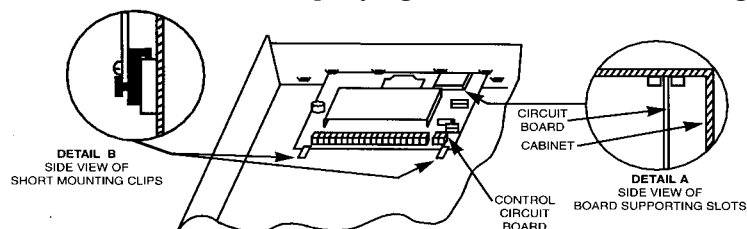

Figure 2. Mounting The PC Board
### Mounting The Control's Circuit Board in The Cabinet (Fig. 2)
1. Hang two short Black mounting clips (provided) on the raised cabinet tabs (see Detail B in Fig. 2).
3. Swing the base of the board into the mounting clips and secure the board to the cabinet with the accompanying screws (see Detail B in Fig. 2).